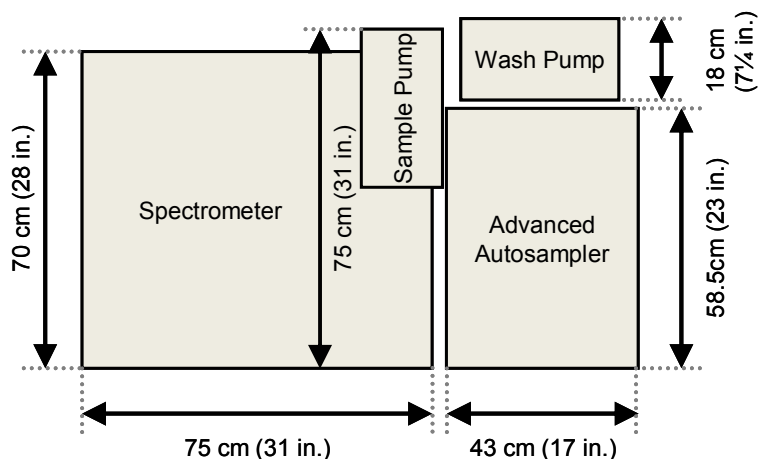

Figure 14. Schematic view of FTIR Oil Analyzer with Autosampler
- 2 Place the additional peristaltic pump and the Advanced Autosampler to the right side of the spectrometer, as shown in Figure 14. The tray of the autosampler faces towards the sample compartment of the spectrometer.